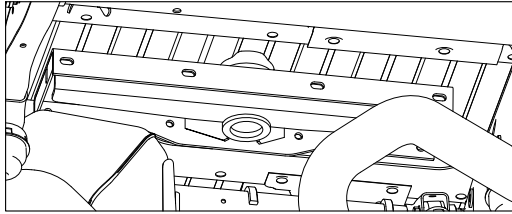

FIGURE B5: View of Truck Bed looking towards front of truck.
3. **Stage center section.** Raise the center section into place as shown in figure B5, staging it for installation. When staged correctly, the receiver socket will be "offset" toward the rear of the truck and the carriage bolt will be on the driver's side. It may be helpful to pull downward on the exhaust while positioning the center to allow extra room for maneuvering it into position.